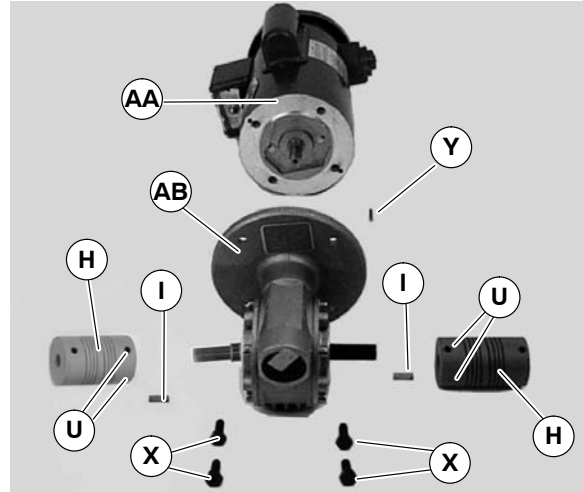

Figure 37
- Remove four screws (X of Figure 37). Detach motor (AA) from gear reducer (AB). Retain shaft key (Y).
12. With key (Y of Figure 37) in keyway, slide motor (AA) and gear reducer (AB) together. Install screws (X) and tighten.
13. Attach couplings (H of Figure 37) to gear reducer shaft. Tighten set screws (U) to 32 in-lb (4.7 Nm).